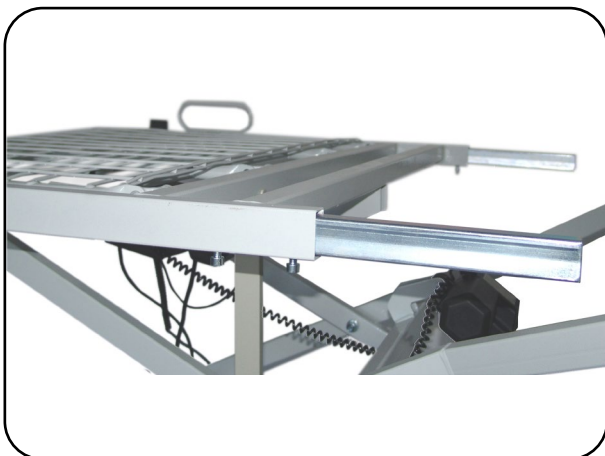
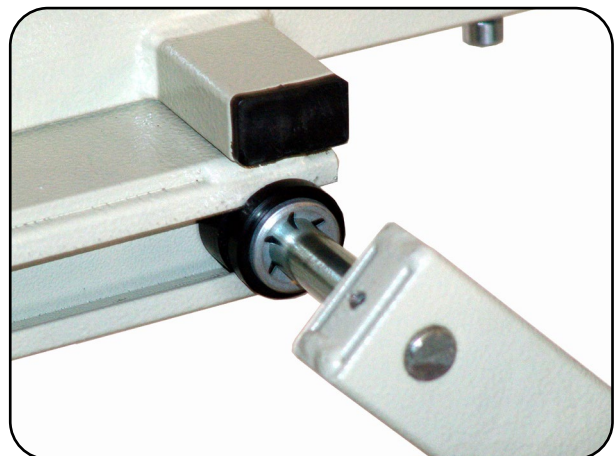

**Fig. 6.1.03 – Head support attached**
**Fig. 6.1.04 – Assembly tool**
6. Place the head support with the support mountings on the side round tubes of the scissor lift (Fig. 6.1.03). To facilitate assembly, place the assembly tool (with the large fork opening facing down) centrally between the cross tubes of the scissor lift and the head support (Fig. 6.1.03 and Fig. 6.1.04). The head support is now horizontal. Alternatively, a second person can hold the head support in a horizontal position.